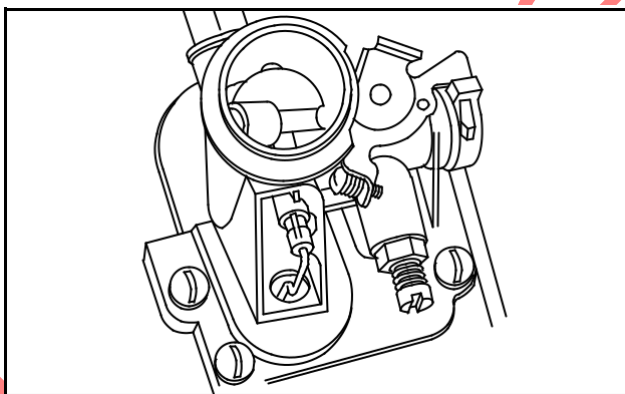

Fig. 245 - PRE-LOADING DIAPHRAGM
1. Move choke plate to an over center position as shown in Fig. 245.